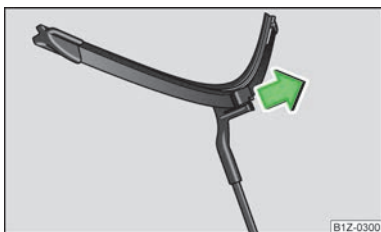

Fig. 36
- › Remove the wiper blade in the direction of the arrow » Fig. 36.
- › Fold the wiper arms back to the windscreen and turn on the ignition. By pressing the window wiper lever into the sprung position **4** » Fig. 36 or when driving at a speed greater than 4 km/h, the windscreen wiper arms move back into the rest position.